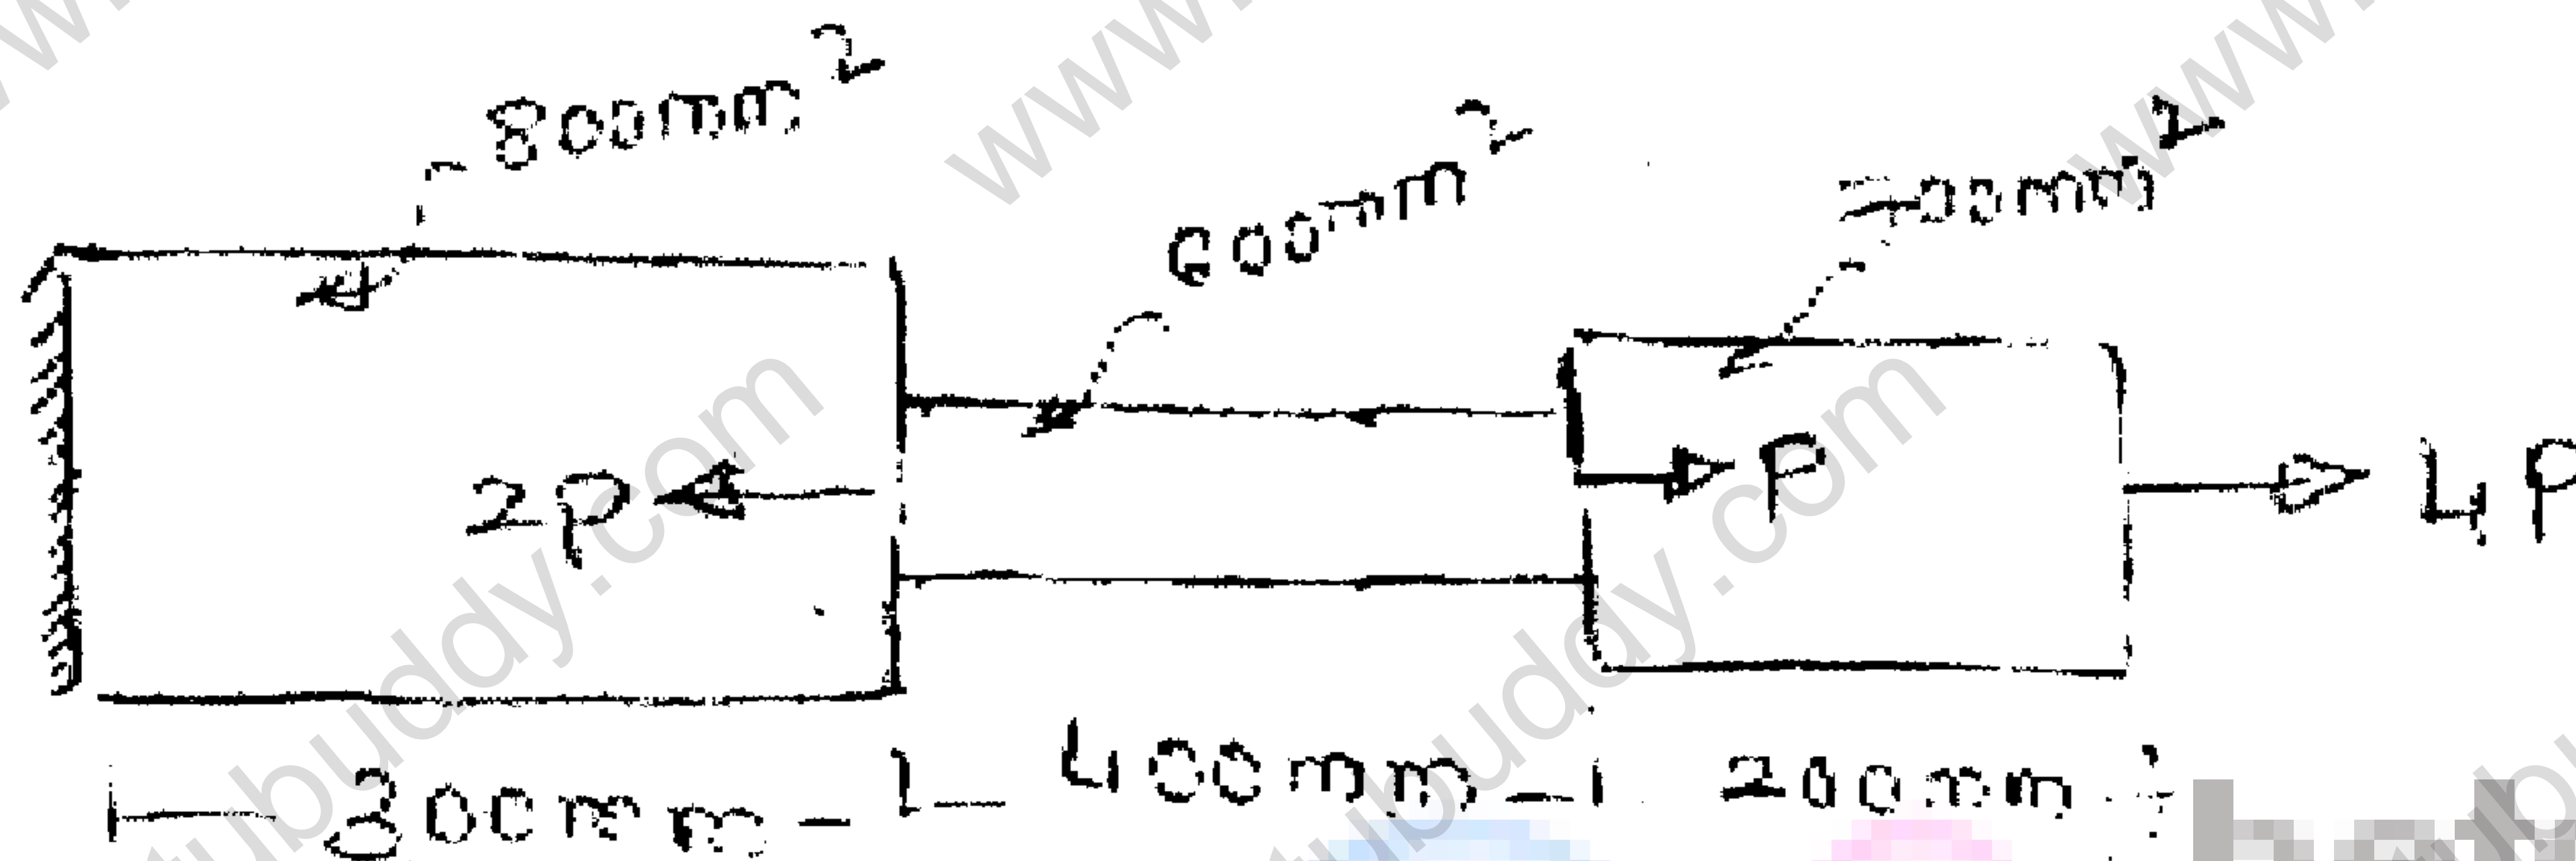

Fig. Q1(c)
- c. A stepped bar is subjected to forces as shown in the Fig. Q1(c). Determine the magnitude of the force P, taking the allowable stress for the material as 80 MPa. Also find the net deformation induced. Take $E = 84$ GPa.